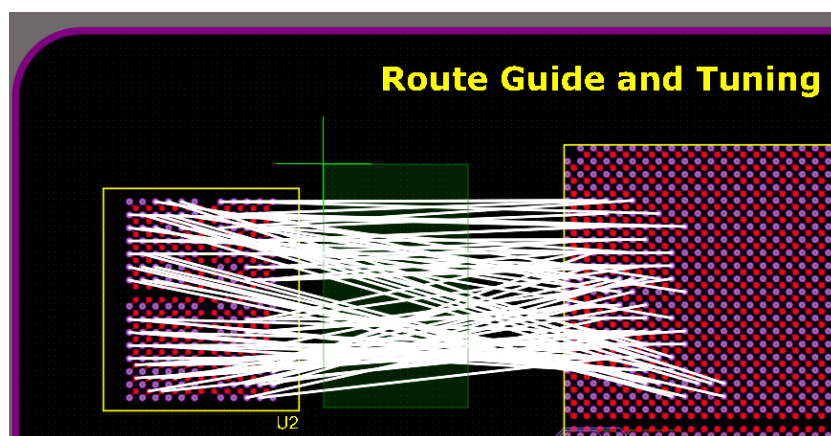

Figure 12. Connections selected
32. Now let's explore ActiveRoute with length tuning. Using **ALT** key and using the left mouse button and sweep from right to left select the connections line between U2 and U5, as shown in Figure 12.